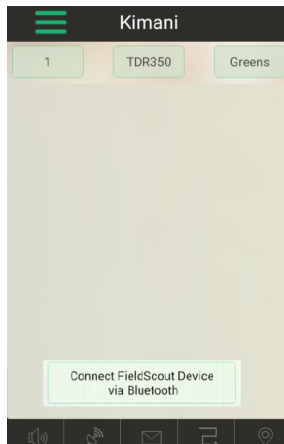

Figure 5a - Bluetooth Connect button (Grid)
6. In Basic mode, the Grid screen appears. Tap on a grid cell where measurements will be added (Figure 5a)